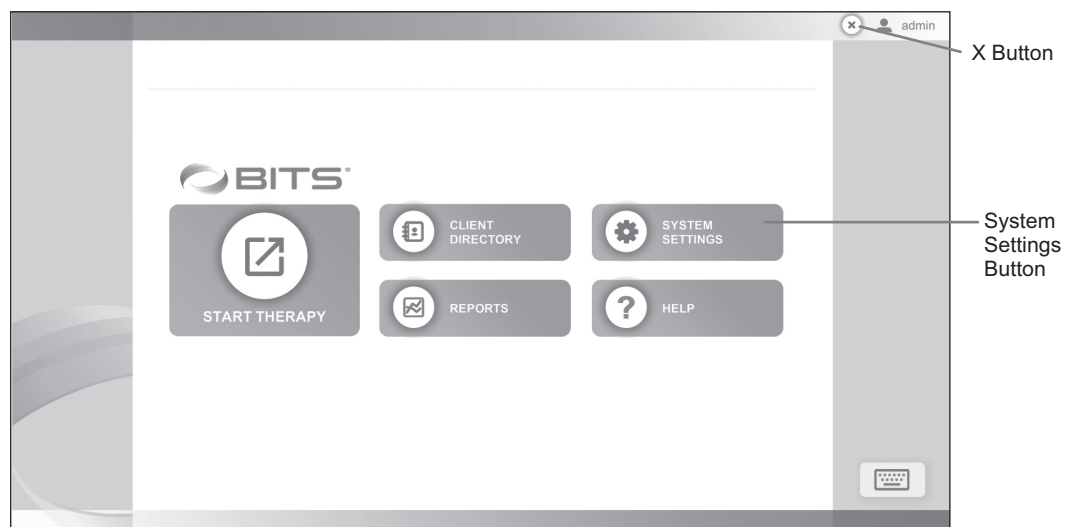

Figure 28: Home Screen
5. The Home Screen will open. See Figure 28.
1. From the Home Screen, press the System Settings Button. See Figure 28.